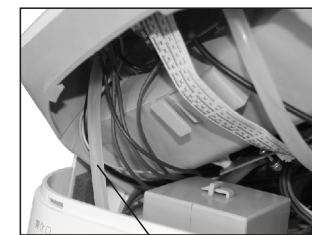

Figure 25
- ▶ Pull off the tube which connects with the oxygen outlet, then take out the panel. (Figure 25)